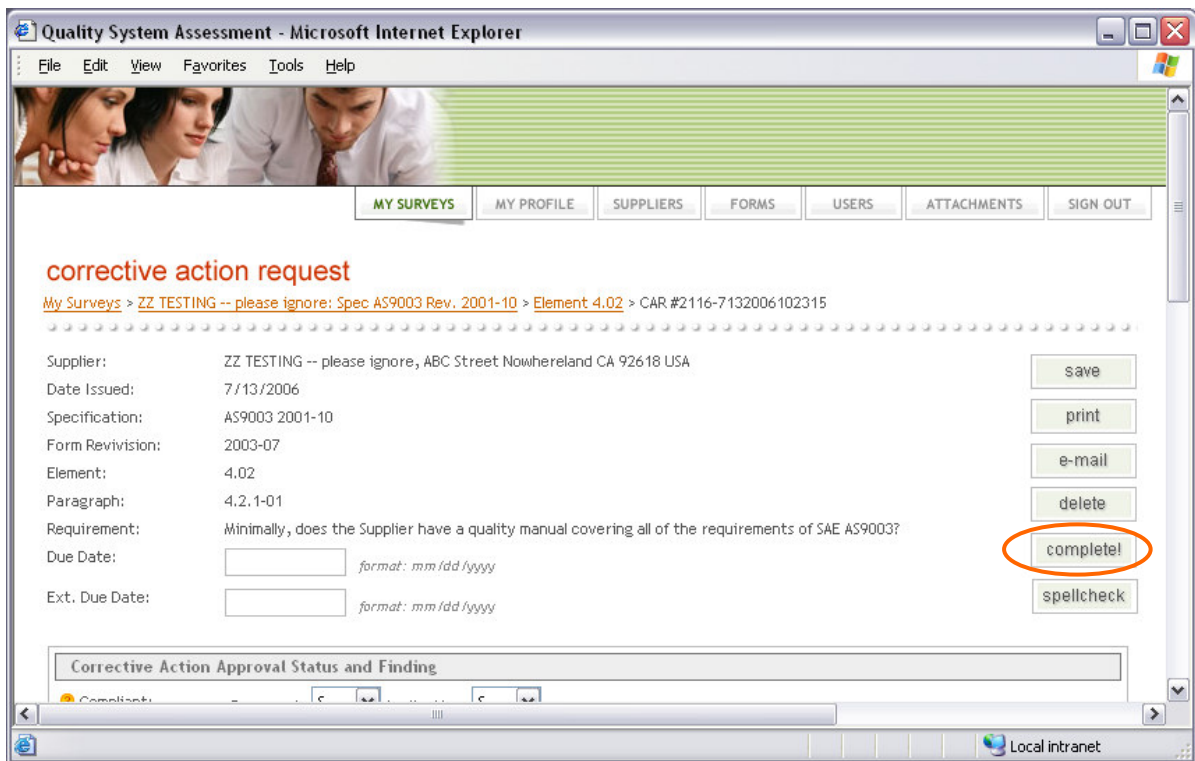

Figure 42 – Close CAR
- On the “survey download” page, please note the highlighted yellow box (figure 42). It contains the link to the QSA Editor setup files and instructions for the installation.